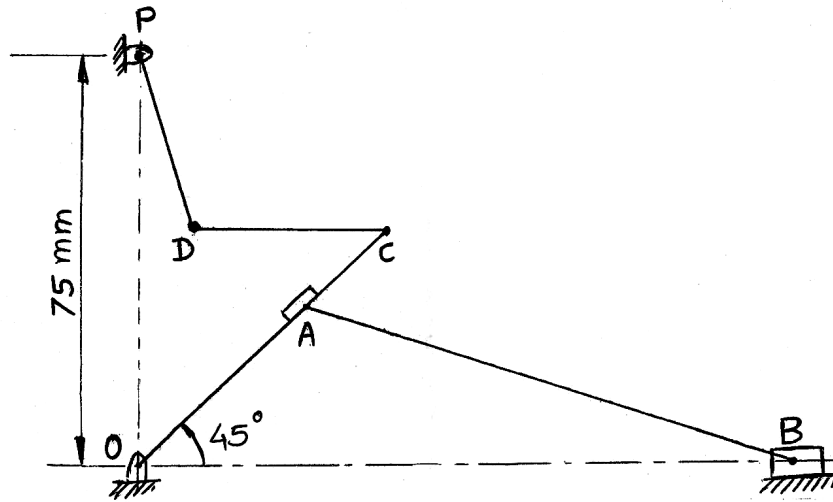

Fig. 2 [For Q. 5 (b) and Q. 6(b)]
- (b) In the mechanism shown in Fig. 2, the crank OA rotates at 60 rpm in clockwise direction and gives motion to the sliding block B and oscillating link PD. For the given configuration of mechanism, determine by relative velocity method and relative acceleration method : [10]
- (b) In the mechanism shown in Fig. 2, the crank OA rotates at 60 rpm in anticlockwise direction and gives motion to the sliding block B and oscillating link PD. For the given configuration of mechanism, determine by ICR method : [10]